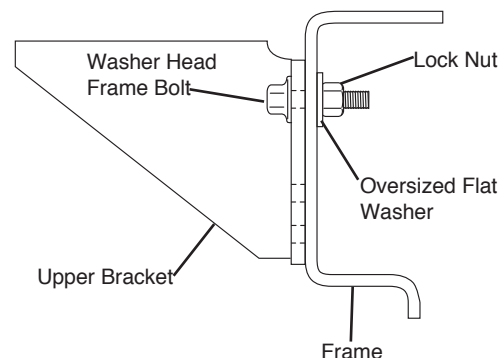

fig. 11
3. Except for Dodge vehicles, loosely install a washer head frame bolt, oversized flat washer, and lock nut (fig. 11).